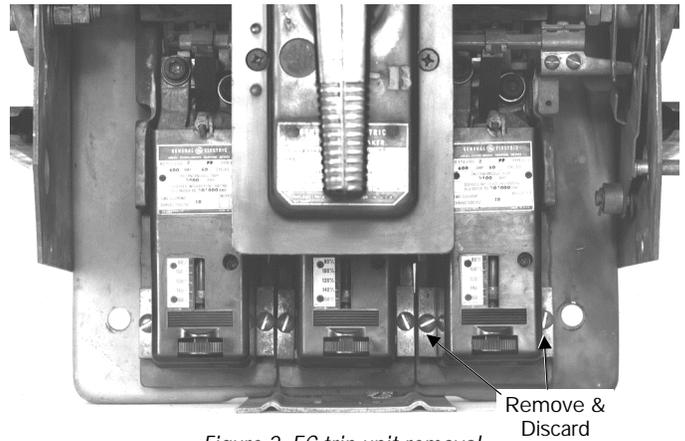

Figure 2. EC trip unit removal.
2. Remove and discard the two screws on each side of the EC trip units, shown in Figure 2, that hold the covers in place.